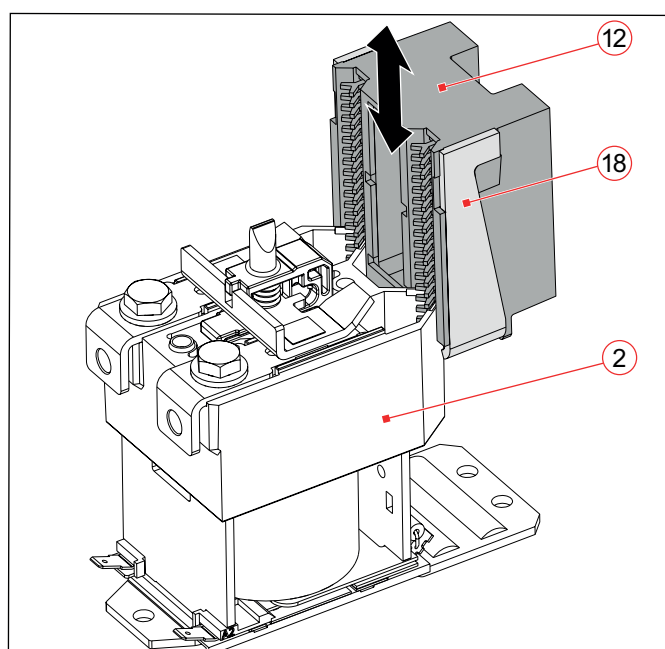

Fig. 71: C195 A/, C195 B/: Disassembling/assembling the arcing chamber (the figure shows C195 A/, the procedure is identical for C195 B/)
- ▶ Before installing the arcing chamber, make sure that the open end of the U-shaped metal bracket (18) points upwards, see Fig. 71.
- ▶ Push the new arcing chamber (12) into the contact unit (2) as far as it will go.
- ▶ Place the cover on the contact unit (2), see section **"Attaching the cover – type C195 A/, B/, S/, T/, W/"** on page 54 .